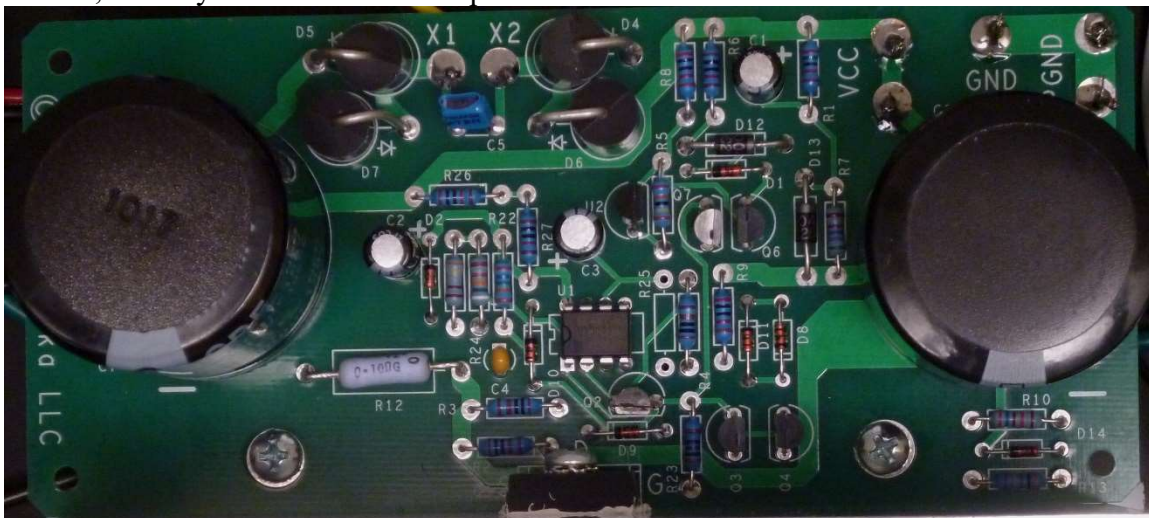

Figure 9-Assembled Power supply mounted on heat sink
2. Use two 6-32x1/4" screws to fasten the PCB to the mounting brackets and heat sink, see Figure 9. Don't tighten the screws yet.